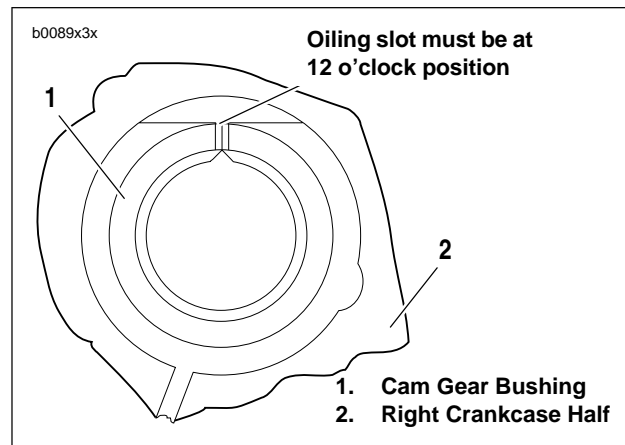

Figure 3-64. Cam Gear Bushing Installed in Crankcase
1. See Figure 3-64. Each cam gear bushing (1), to be installed in right crankcase half (2), must be positioned in crankcase bore with its oiling slot at exact top of bore (12 o'clock position).
1. Separate two halves of crankcase, if not already accomplished. Place right crankcase half on flat surface with gearcase side upward. Bushing to be reamed must be oriented as shown in Figure 3-64.